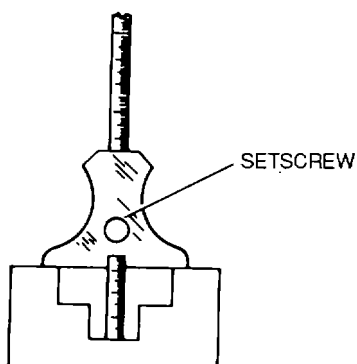

Figure 3-47. Rule Depth Gauge
(1) *Rule depth gauge.* The rule depth gauge, shown in figure 3-47, is a graduated rule with a sliding head designed to bridge a hole or slot, and hold the rule perpendicular to the surface from which the measurement is taken. This type has a measuring range from 0 to 5 inches. The sliding head has a clamping screw so that it may be clamped in any position. The sliding head is flat and perpendicular to the axis of the rule and ranges in size from 2 to 2 5/8 inches wide and from 1/8 to 1/4 inch thick.